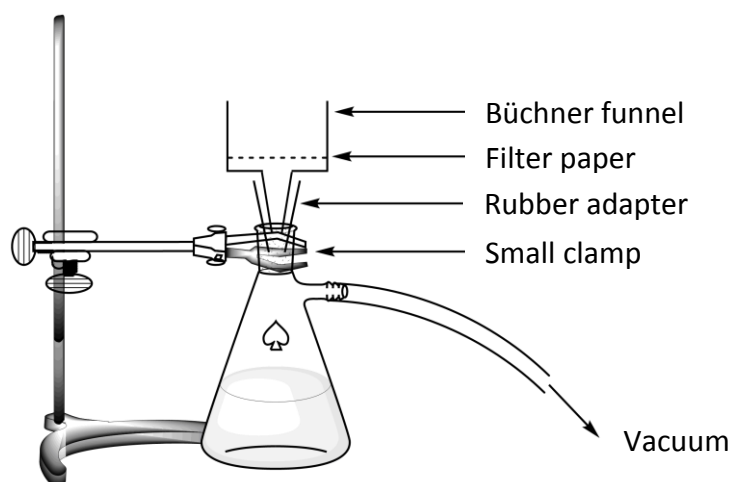

Figure 2. Setup for the vacuum filtration
7. **Set up** a vacuum filtration apparatus (see Figure 2) using a Büchner funnel, a filter paper and a suction flask, that is secured to the laboratory stand with a small clamp. **Raise** your HELP card. A lab assistant will come and show you how to connect the suction flask to the vacuum source.